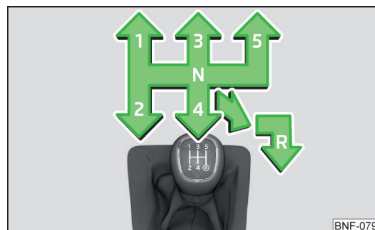

Fig. 124
The shift pattern for the individual gear positions is shown on the gear lever » Fig. 124.
- › Push down on the shift lever, then push fully over to the right and then backwards, to position **R** » Fig. 124.